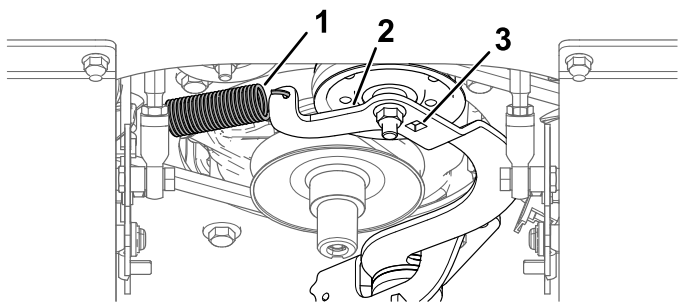

Figure 58
5. Insert a drive ratchet in the square hole of the idler arm to release the belt tension (Figure 58).
9. Install the spring to the spring anchor. Use the drive ratchet to apply tension to the spring to allow the belt to pass over the lip of the idler pulley (Figure 58).